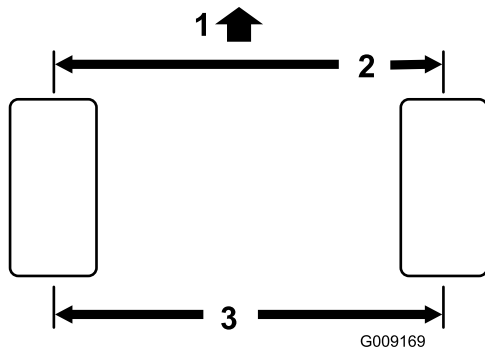

Figure 49
1. Measure the center-to-center distance (at axle height) at the front and rear of the steering tires. The front measurement must be 1/8 in. (3 mm) less than the rear measurement (Figure 49).